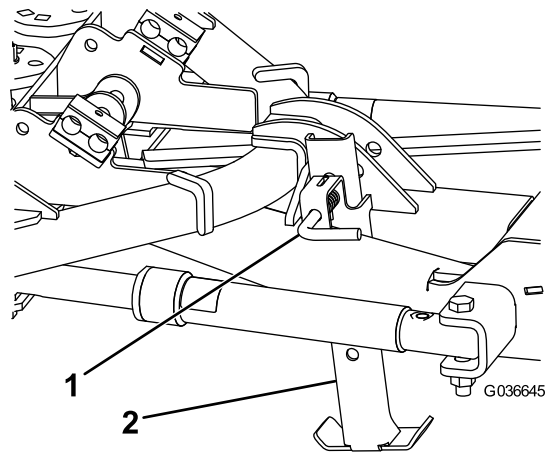

Figure 4
2. Pull the kickstand spring pin and insert the kickstand into the mounting bracket, then release the spring pin to lock the kickstand in place in the lowered position (Figure 4).